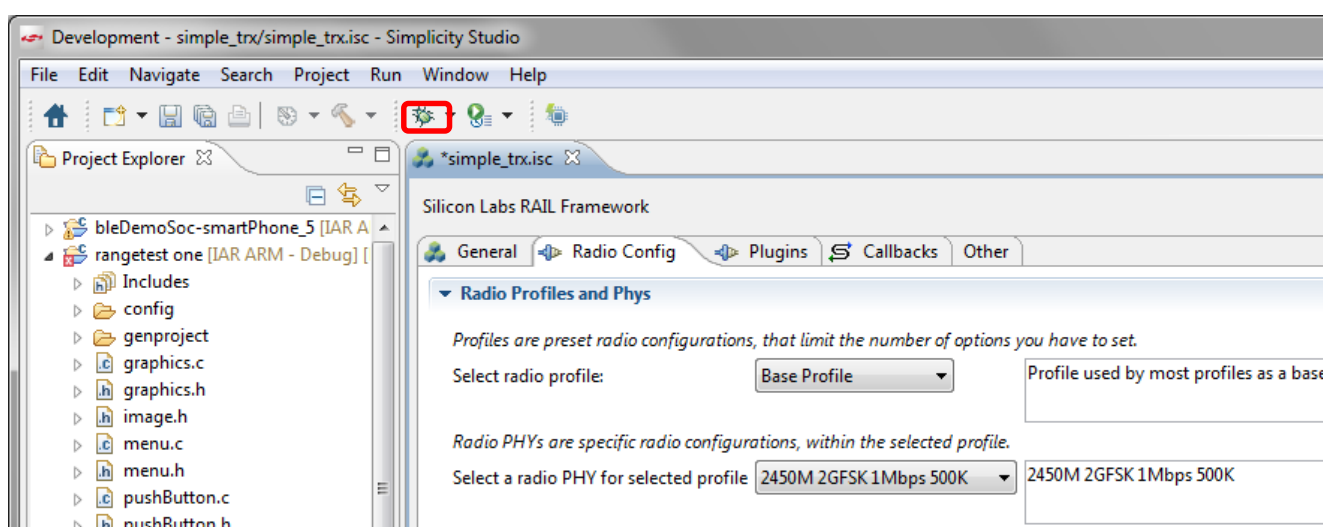

Figure 25. AppBuilder Debug Control
- After you click **[OK]** on the Generation Confirmation dialog, the AppBuilder interface returns. Click **[Debug]** to flash the compiled application to the EFR32 (Figure 25).